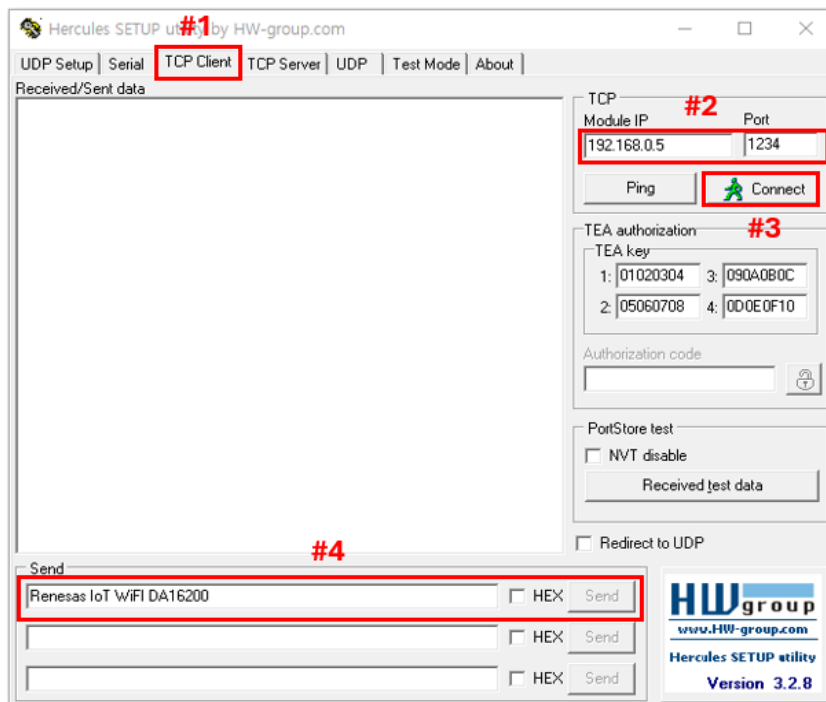

Figure 27: Hercules – TCP client socket setting
- a. Select TCP Client (#1, Figure 27).
- b. Enter the IP address and the port number of DA16200/DA16600 (#2, Figure 27).
- c. Click Connect to connect the socket (#3, Figure 27).
- a. Send data (#4, Figure 27).